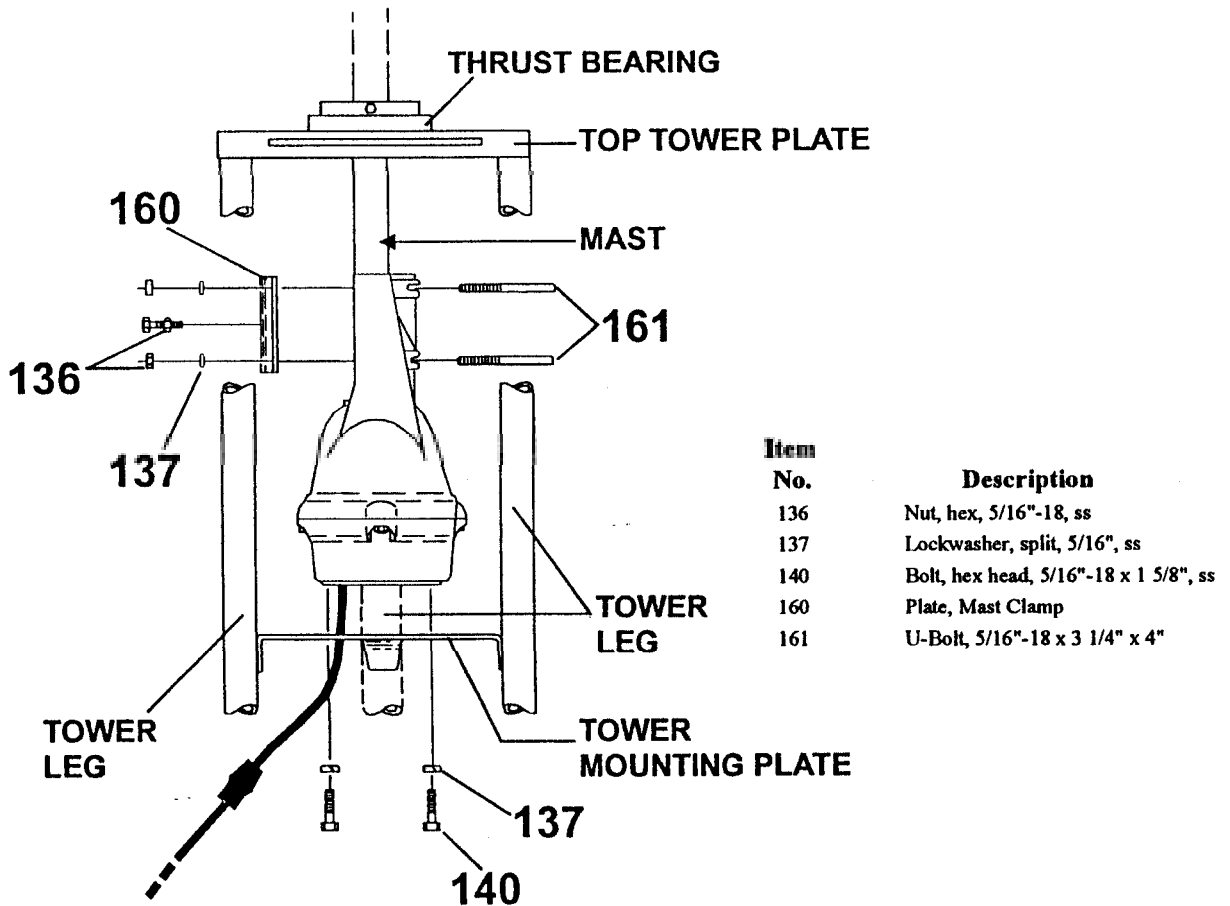

Figure 4
There are three general types of installations (see Figures 4, 5 and 6).
The rotator is mounted inside a tower (see Figure 4) to the flat tower plate by means of six (6) bolts furnished in the hardware kit. Use the following procedure:
3. The rotator is attached to the tower plate by means of six (6) bolts and lockwashers (see Figure 4). The flat tower plate must be drilled in six (6) places using the template provided with this manual unless the tower plate is already properly drilled.
4. Tighten the six (6) bolts, but not to final tightness. Observe how the rotator turns. It must rotate in such a manner as to turn the mast concentrically in the thrust bearing.
5. Trial assemble the mast to the top of the rotator using the U-bolts nuts and lockwashers through the rotator and clamp plate as shown in Figure 4. The maximum mast diameter that may be used is 2 1/16" O.D. We recommend 1 1/2" nominal steel pipe with 1.9" O.D. in standard wall thickness of .145". For stacked arrays or very large beams, we recommend extra heavy-duty wall thickness of .200". Both steel pipes can be purchased to specification ASTM120.
8. Drill through the antenna mast and rotator casting, using a 5/16" drill. Locate the hole in the clamp plate that is furnished. Insert the bolt through the clamp plate, mast, and rotator and tighten all bolts to 150 inch-pounds. Refer to Figure 4.